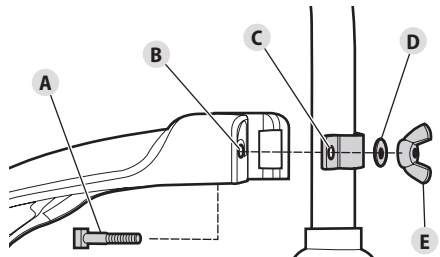

Fig. 2
4. Insert the square bolt (Fig. 2-A) into the hole underneath the cutting head shield (Fig. 2-B). Push the square bolt through the cutting head shield and mount bracket (Fig. 2-C).
5. Place the washer (Fig. 2-D) onto the square bolt.
6. Screw the wing nut (Fig. 2-E) onto the square bolt until the cutting head shield is firmly in place.